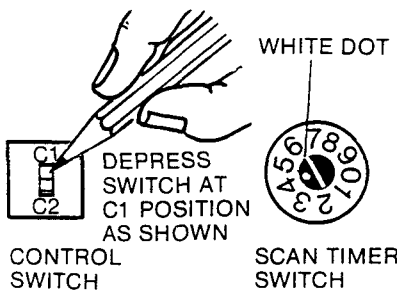

FIGURE 1
- A. Set control switch to C1 position. (See Figure 1).
- C. Set scan timer switch accordingly (1 thru 7). White dot on switch indicates setting. (See Figure 1).